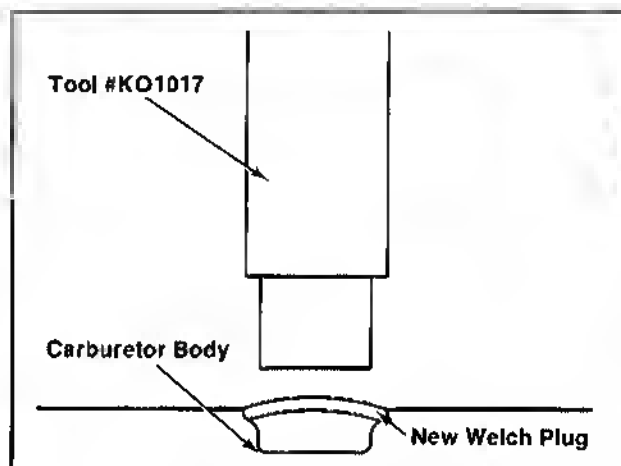

Figure 6B-12. Installing Welch Plugs.
- b. Place a new welch plug into the cavity with the raised portion up. Use the end of the tool that is about the same size as plug and **flatten** the plug. Do not force the plug below the top surface. Refer to Figure 6B-12.